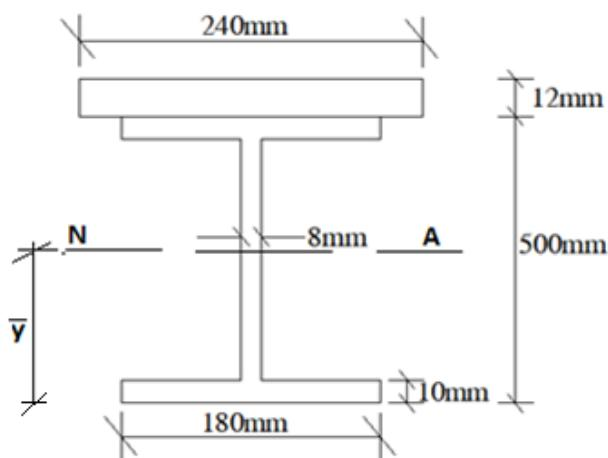

Figure 8
c) An I section has flanges of size 180 mm x 10 mm and its overall depth is 500 mm. Thickness of the web is 8 mm. It is strengthened with a plate of size 240 mm x 12 mm on compression side. Refer figure 8. Find the moment of resistance of the section if permissible stress is 150 N/mm² in bending tension. What uniformly distributed load it can carry if it is used as a cantilever of span 3 m?